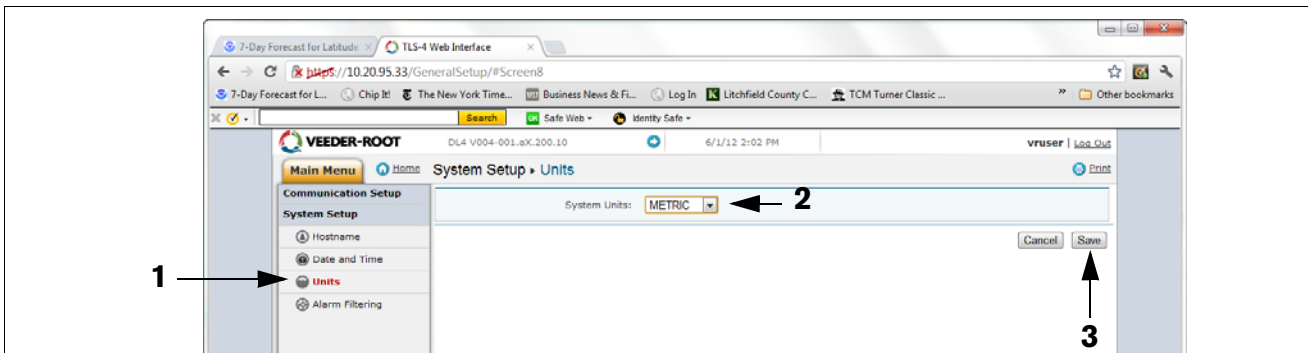

Figure B-12. Selecting System Units
14. From the System Setup menu, click on the Units page(1), select the desired units (2), click Save (3) (see example in Figure B-12).